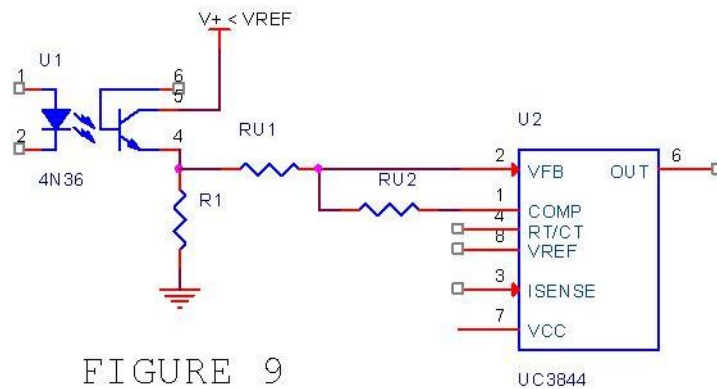

FIGURE 9
10) In order to eliminate cycle skipping and hence acoustic noise slightly lower the reference voltage used to power opto-transistor collector pin (Figure 9).